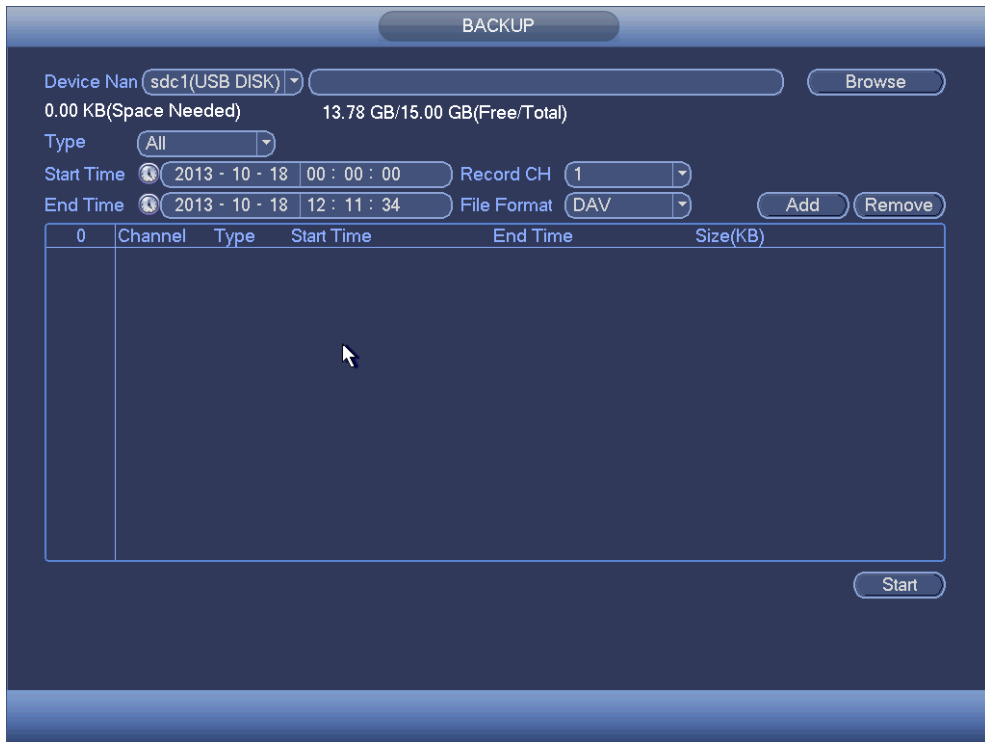

Figure 4-222
- b) From Main menu->Backup, you can go to the Backup interface. See Figure 4-222